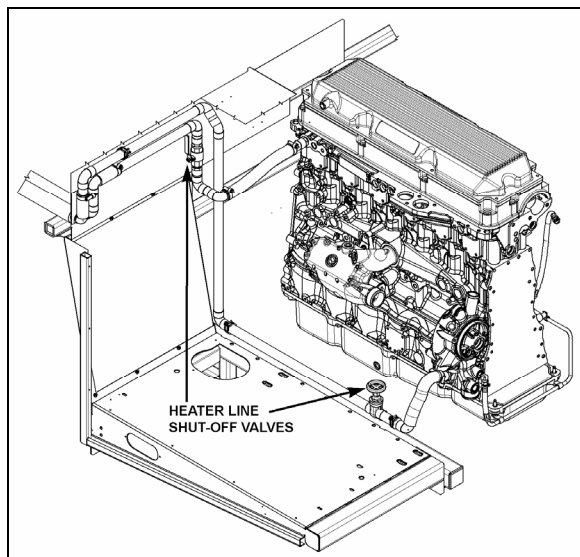

FIGURE 44: HEATER LINE SHUT-OFF VALVES
**On X3 Coaches**, the valves are located in engine compartment. One is on the L.H. side of compartment in front of the radiator and the other valve is located under the radiator fan gearbox (Fig. 44).